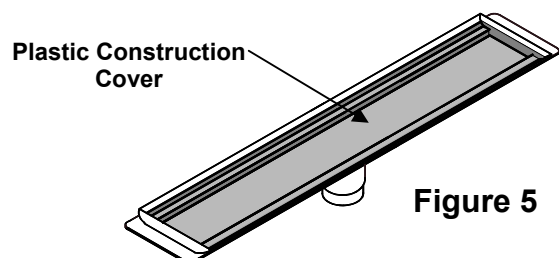
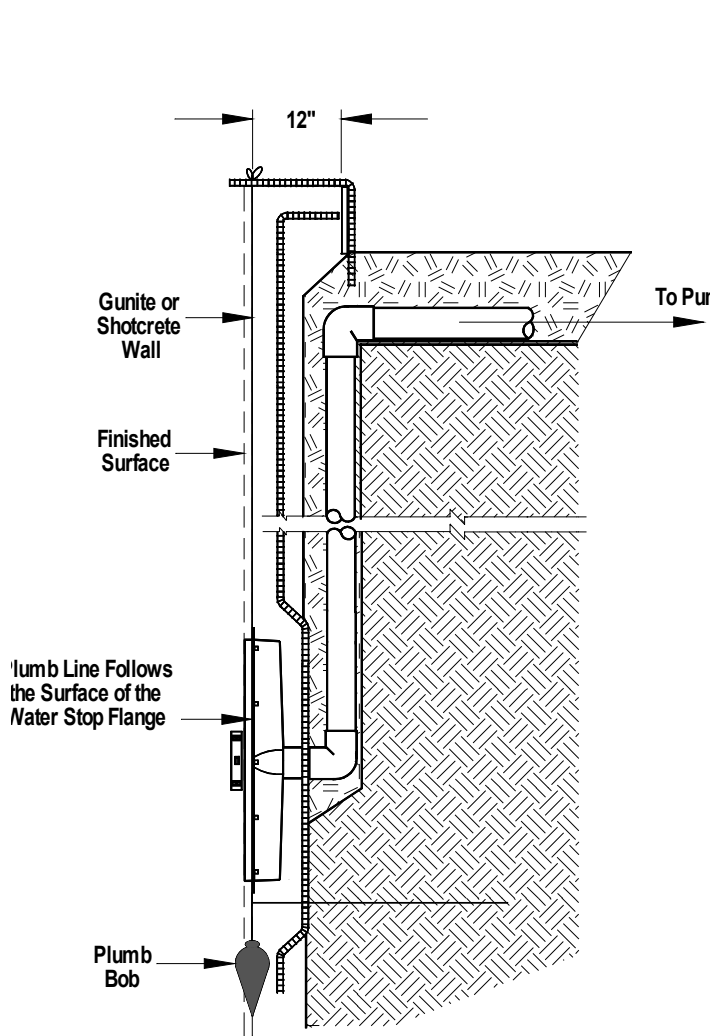

Figure 5
Figure 2
13. Make sure the plastic Construction Cover is secured in the Channel Drain to prevent concrete entering the drain sump (see Figure 5).
5. Install the Channel Drain so that the plumb line will pass along the flat water stop flange on the Channel Drain (see Figure 2). **SUGGESTION:** The parts should be “dry fitted” before gluing to assure that the proper positioning of the Channel Drain is achieved. (a.) The Channel Drain finishes along the plumb line assuring that it is at the proper depth (b.) The Channel Drain finishes level vertically and horizontally.
8. When installing the “steel basket” around and behind the Channel Drain, the rebar must be bent and formed so that the “basket” is behind and not touching the Channel Drain (see Figures 2 and 3).
The Channel Drain may be configured to accommodate more than one pump by ordering from A&A Manufacturing an additional suction port to the bottom of the unit (see Figure 5). Installation and steel forming for the dual suction Channel Drain is identical to the single suction drain (see Figure 2).